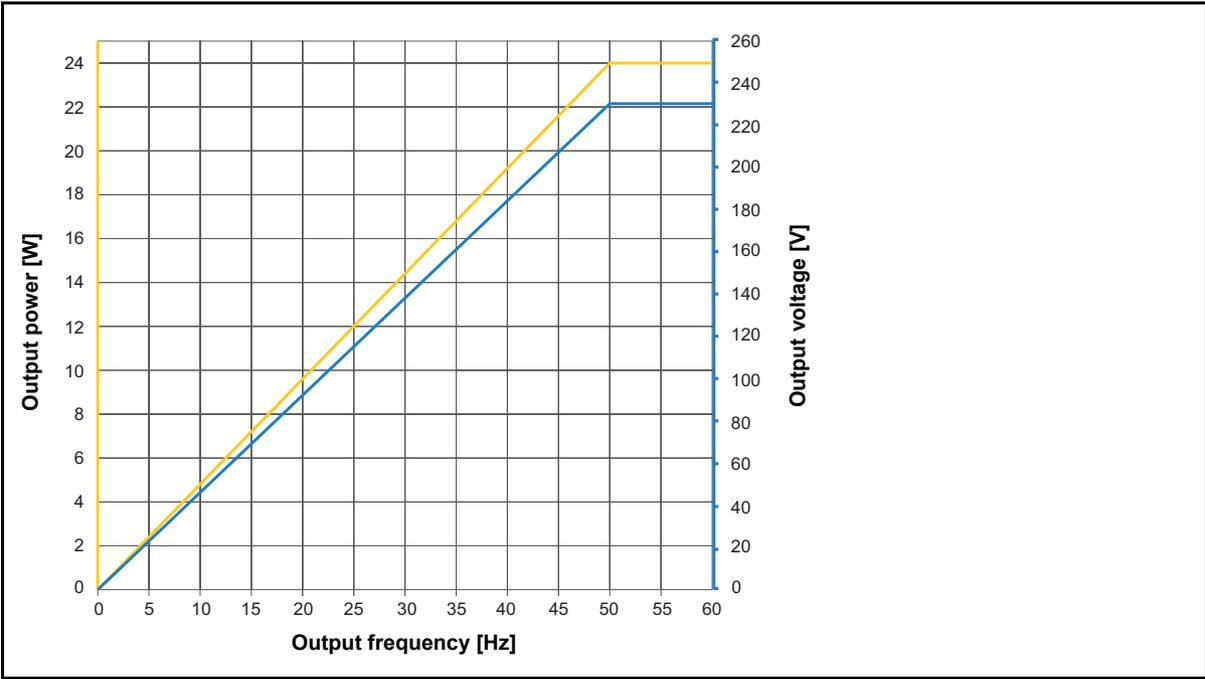

Figure 15-5: Derating of output power and output voltage 3 x 230 V_{RMS}
3. See Figure 15-5: "Derating of output power and output voltage 3 x 230 V_{RMS}" on page 262